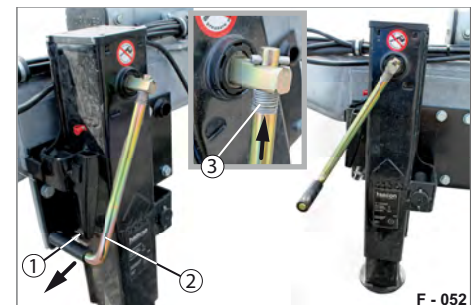
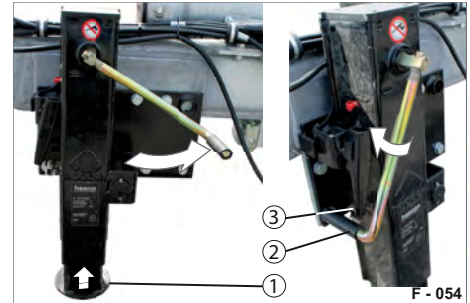

Fig. 51 Swivel support - support position
Fig. 53 Support foot retracted
- ▶ Pull the hand crank (Fig. 51/2) out of the retaining plate (Fig. 51/1).
- ▶ Press against the compression spring (Fig. 51/3) and turn the hand crank so that the handle points forwards.
- Using the hand crank (Fig. 53/2), crank the support foot (Fig. 53/1) - only after coupling the trailer - fully up.
- Press against the compression spring (Fig. 51/3) and turn the hand crank so that the handle points to the retaining plate (Fig. 53/3).